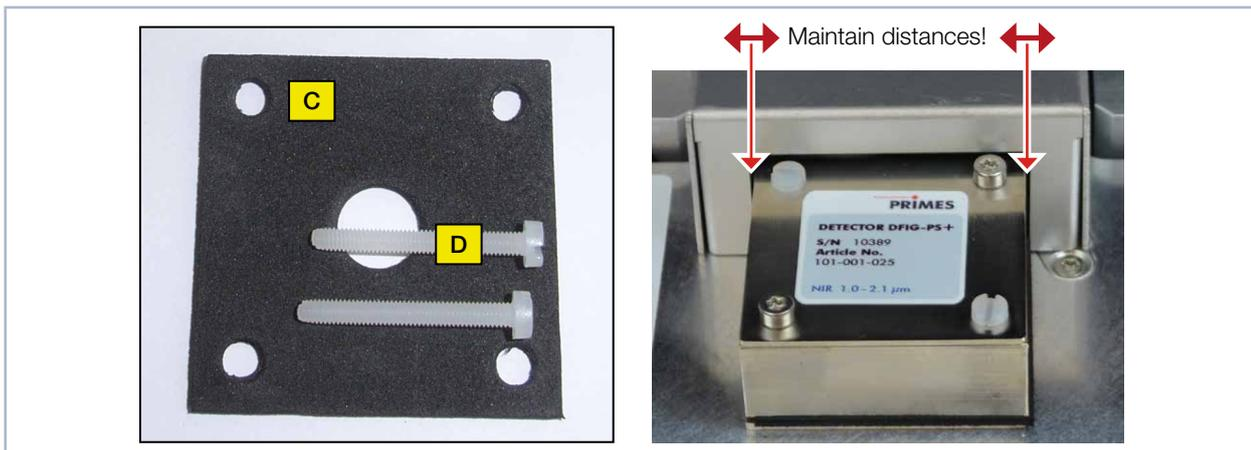

Fig. 18.8: Assembling a new detector
1. To install the new detector, first place the foam rubber spacer (C) on the mounting surface of the detector. Then connect the cables. Align the detector in such a way that a space is maintained to the housing on both sides (see Fig. 18.8 on page 56).
2. Fasten the detector with the two plastic screws (D).